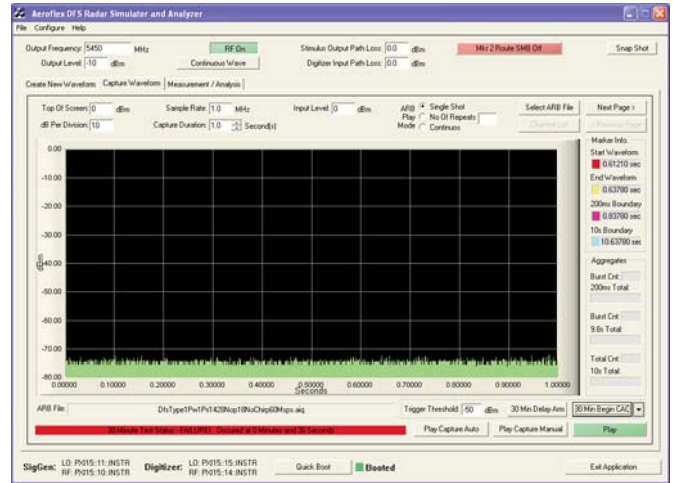

Figure 5. 30 Minute Test
3) 30 minute Non-Occupancy test, as shown in figure 5 verifies the EUT makes no transmission after the 10 second boundary, for a period of 30 minutes. Initiating this test triggers the selected waveform to be played and then arms the digitizer 10 seconds after the end of waveform play to trigger on any RF input exceeding the user-defined level threshold. If a trigger event occurs within this 30 minute period the transmission is captured and is time stamped.